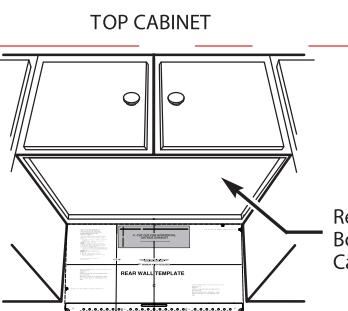
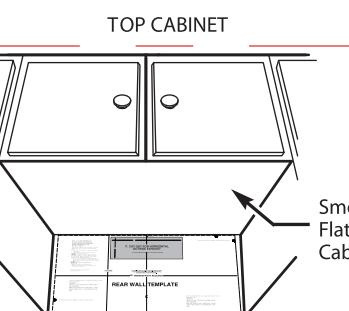

FIG. 1
FIG. 2
- Determine if your cabinet has a recessed area or a smooth, flat bottom. See Fig. 1. If smooth, tape template onto the bottom surface (Fig. 2). If it is recessed, cut the edges of the template to fit in the recessed bottom of the cabinet. It is important that the edges of the cabinets permit level installation of the oven.